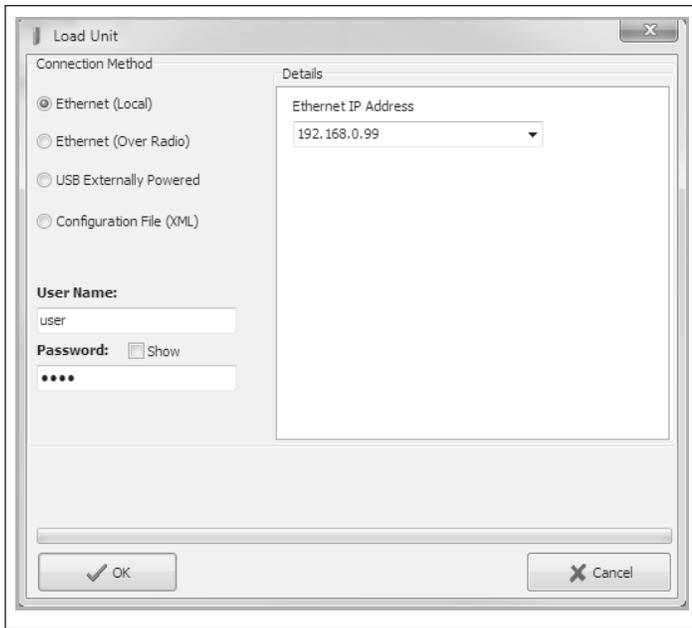

Figure 34. Load unit
- Load Unit** Allows you to read the configuration data from the module radio and load it into MConfig, replacing the configuration currently in MConfig for this module (see **Figure 34**). Select the method you want to use to read the configuration data from the module: